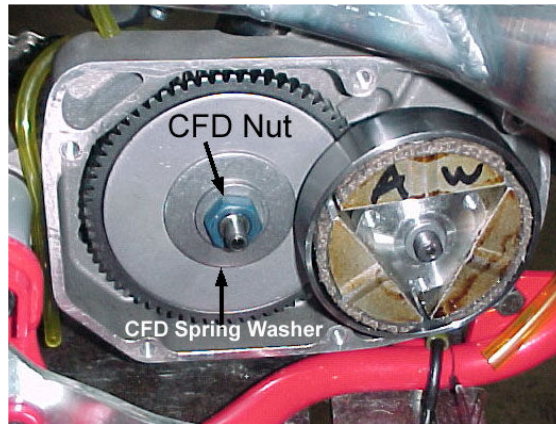

Figure 3
6. Once the blue CFD nut has been removed, by hand, pull off the flat washer, and CFD spring washer (figure 3)